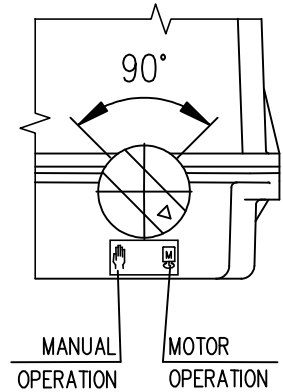

Fig.10
- Turn the button for gear disengagement to the right by 90° (Fig. 10), the button arrow shows the symbol of hand) what disengages the gear in the actuator. In case of lever actuator it is needed to hold the lever to prevent the device with load against stroke to the end position.